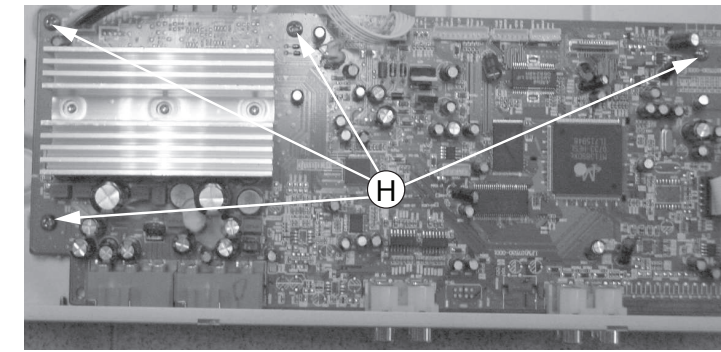

Figure 11
- 1) Loosen 4 screws "H" on the top of Main Board as shown in figure 11.